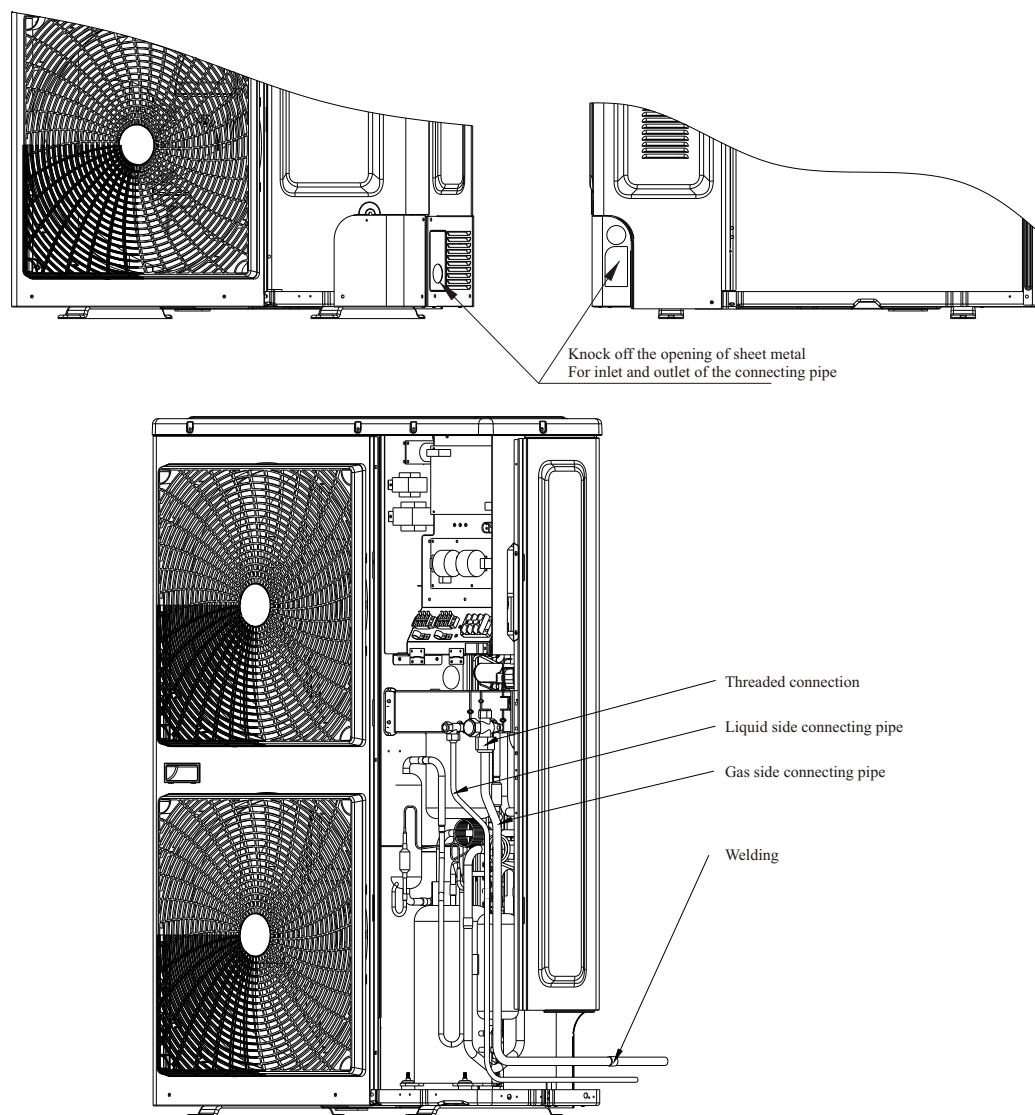

Fig. 3-5 Schematic Diagram for Connecting Pipe of Outdoor Unit
- 2) 12.5KW, 14KW, 16KW and 18KW use the connecting pipes to get in and out through the knock-off hole of sheet metal (as shown in Fig. 3-5).